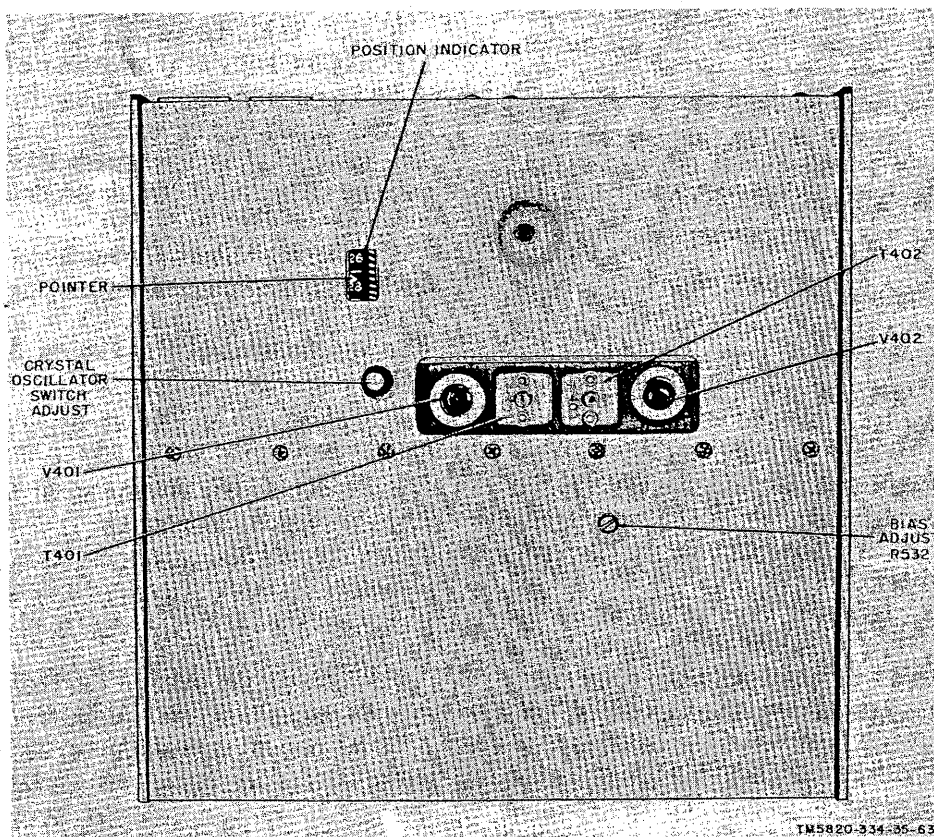

Figure 64. Receiver, rear view, case removed.
on the frequency indicator dial with the number under the pointer of the position indicator at the rear of the receiver (fig. 64). The numbers should be the same. If
c. Turn the crystal oscillator switch adjust shaft (screwdriver adjustment) at the rear of the crystal unit (fig. 64) and set the drum dial of the position indicator to zero.